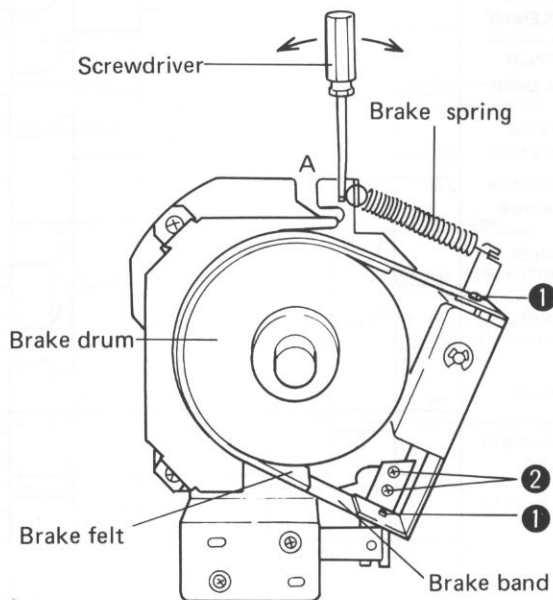

Fig. 7-2 Brake adjustment
1. First check that the brake band is mounted centrally in respect to the brake drum, and that the band is also parallel (i.e. no tape slackness or twisting). If the band is not in the center, adjust the brake drum; if it is not parallel, adjust the brake band after loosening screw ①.
of the brake solenoid inwards), and that there is no slackness in the brake band. If the brake felt does make contact, or there is slackness in the band, loosen screw ② shown in Fig. 7-2 and adjust the brake ring.
3. Pull the tension gauge in the B (E) direction, and read off the value when the reel starts to rotate. This value should lie in the 350 — 450g range, and may be adjusted by screwdriver at section A as shown in Fig. 7-2. If this procedure fails to attain the specified range, check the following points.